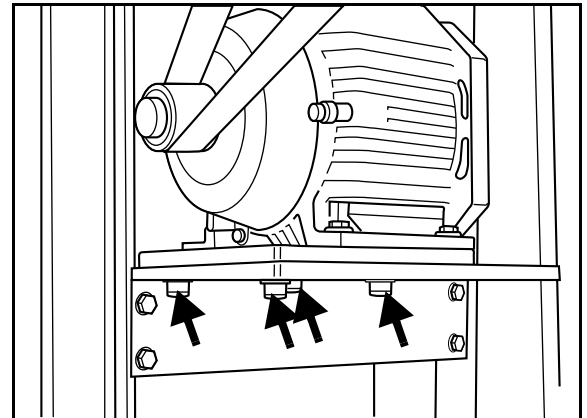

Fig. 10
- The timing belt from the motor is adjusted by loosening the screws which hold the motor, and moving the motor sideways, see Fig. 10.